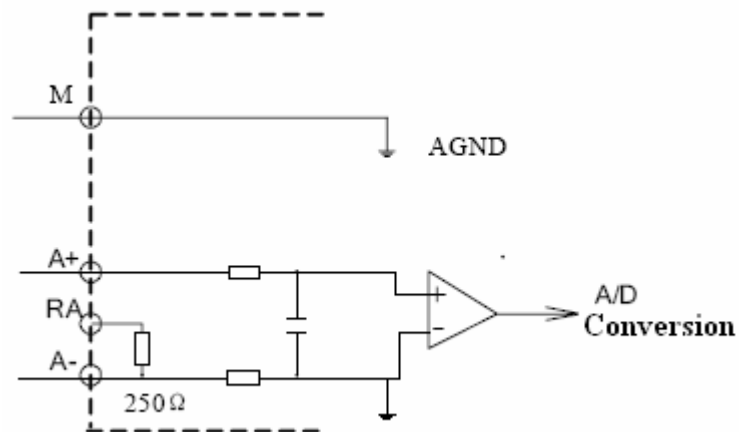

Figure3-2-4 LM3310 Input Channel Equivalent Circuit
Input channel (AI) (voltage, current signal input) equivalent circuit is shown in Figure 3-2-4.